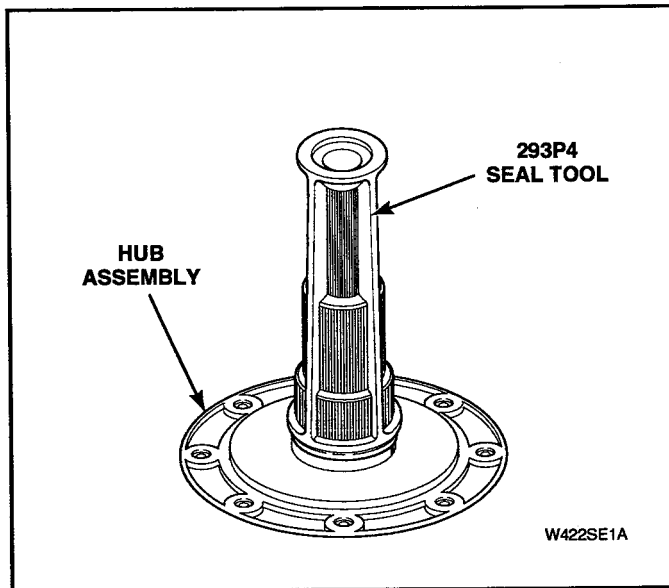

Figure 5-14
- Place new drive bell seal onto hub and carefully push into position using large end of No. 293P4 Seal Tool. See Figure 5-14.